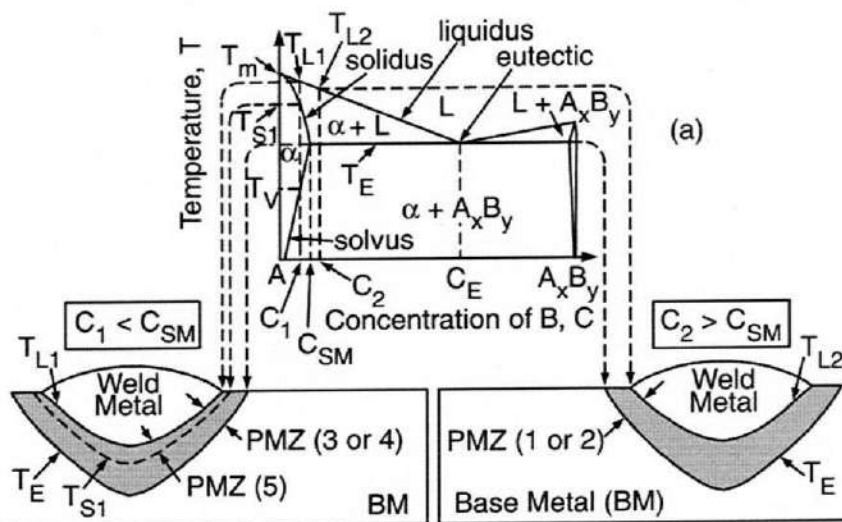

Figure 6(b)
6. (a) What is liquation cracking? (05)
- (b) You are given an Al-6.3% Cu alloy for welding, where the Cu concentration C_2 is outside the solubility limit of the α phase ($C_2 > C_{SM}$). Explain the liquation mechanism of the C_2 alloy, which consists of α matrix and A_xB_y particles in the as-cast condition. Using the phase diagram of Figure 6(b), explain what happens to the base metal and PMZ regions. Also, draw the grain microstructures before and after welding. (15)